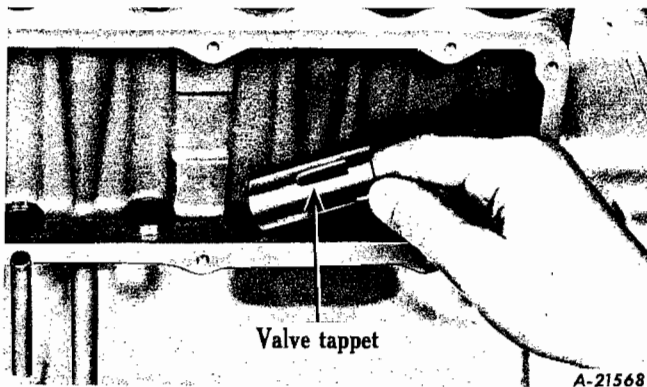

Fig. 73
8. **INSTALL VALVE TAPPETS.** Coat each of 12 valve tappets with heavy engine oil and drop each, flat side down, through recess in side of cylinder block into sockets in block (Fig. 73).